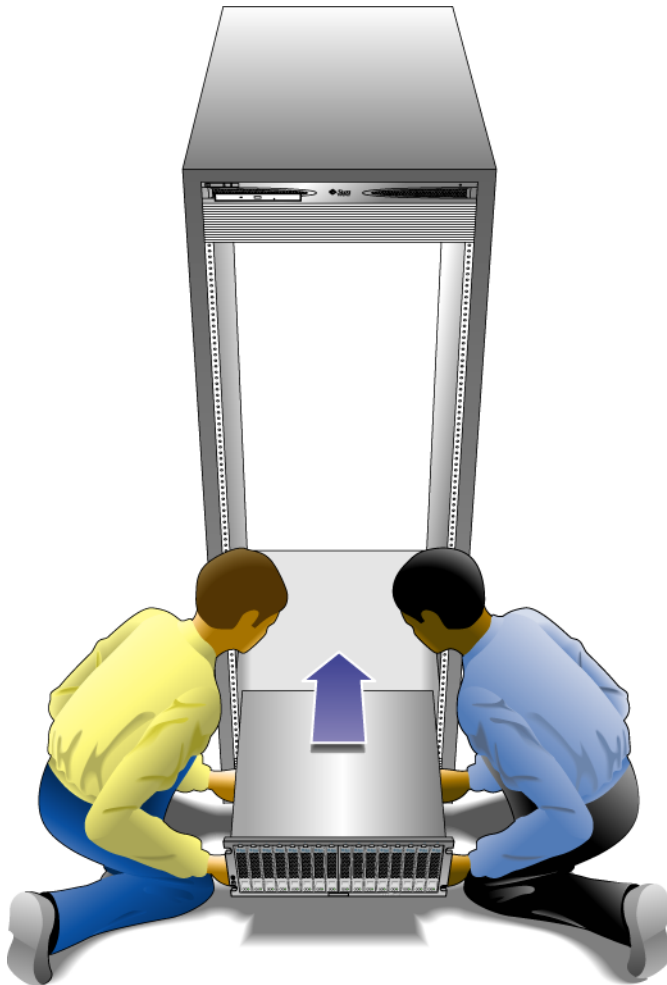

FIGURE 2-7 Positioning the Unit in the Cabinet
1. Using two people, one at each side of the unit, carefully lift and rest the unit on the bottom ledge of the left and right rails (FIGURE 2-7).